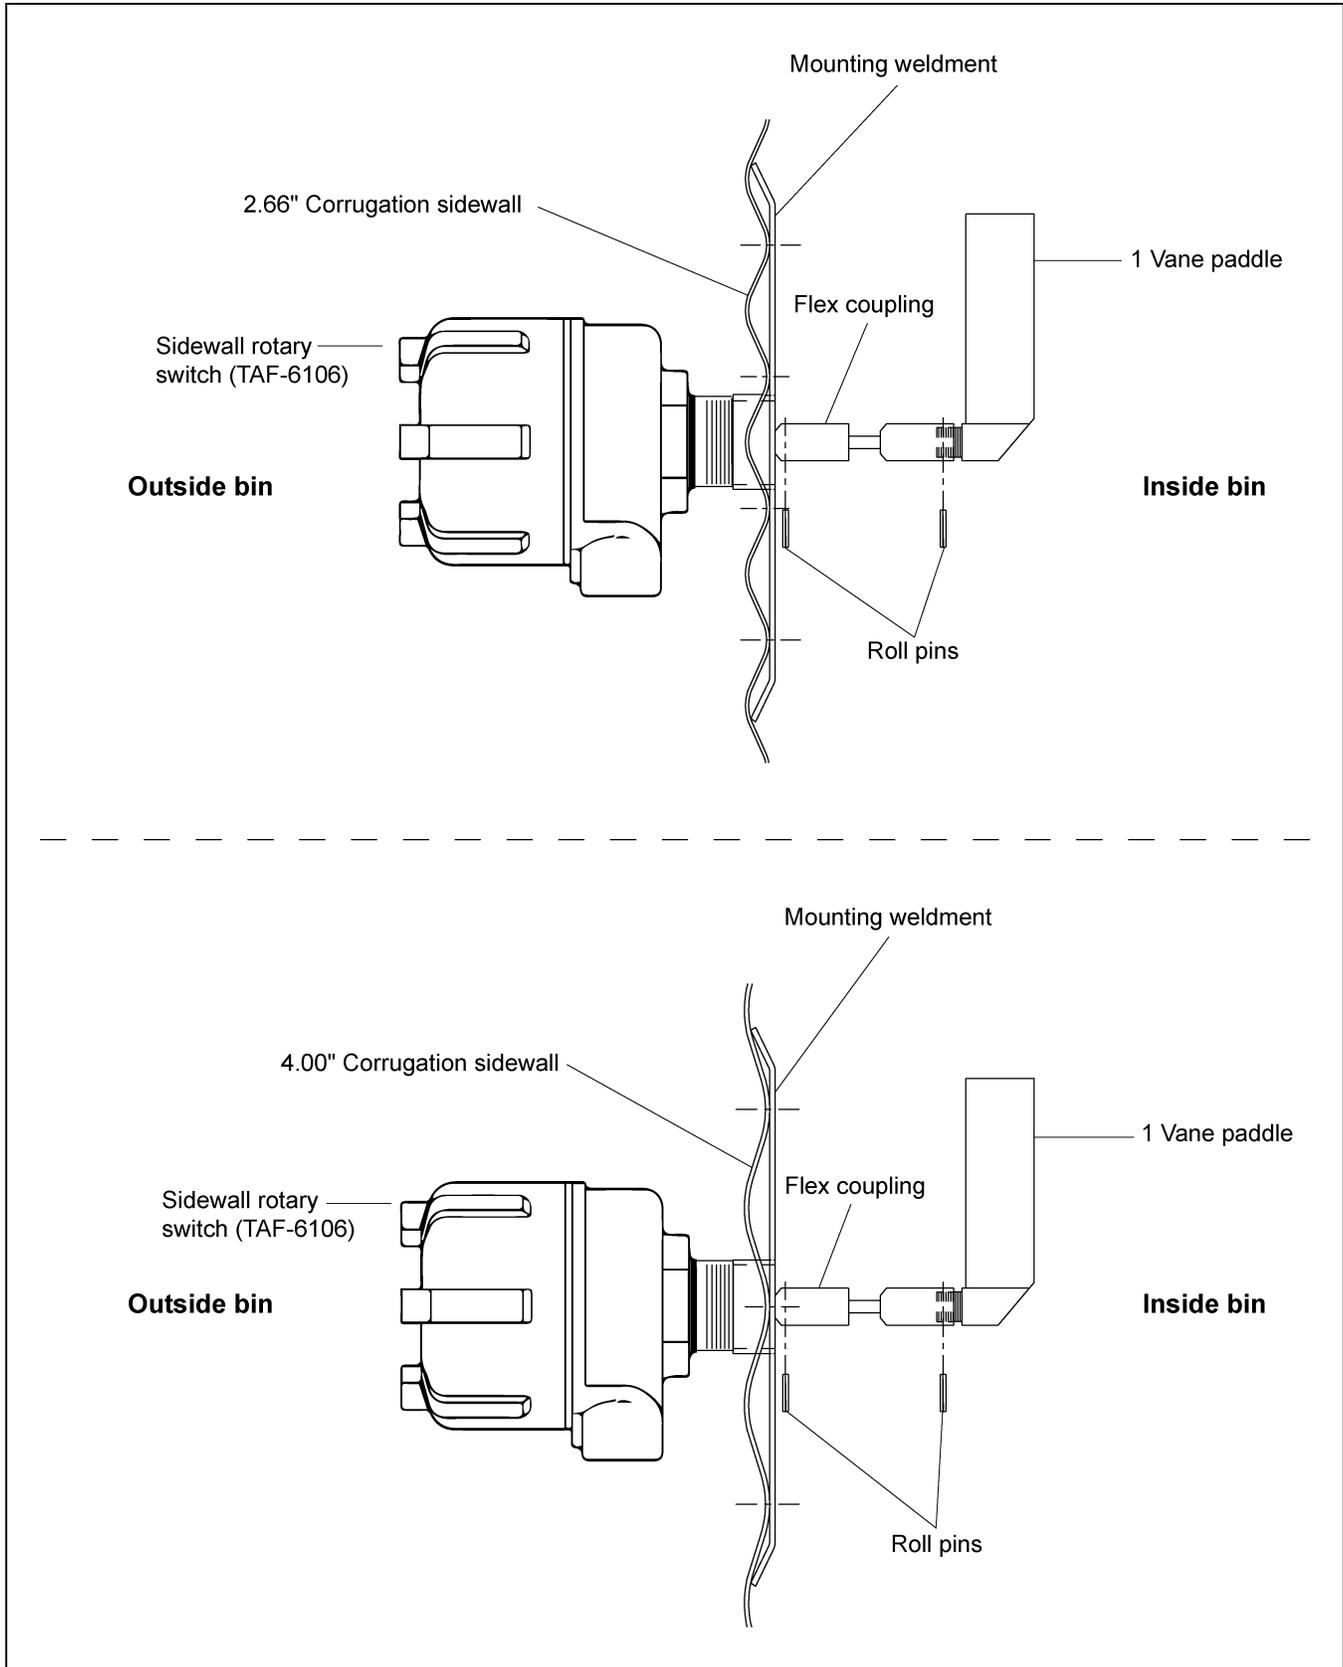

Figure 3P
4. Use the mounting plate as a pattern and drill four (4) 3/8" holes through the sidewall at the switch location so the plate can be bolted to the bin.
9. Attach the 1 vane paddle to the flex coupling as shown in Figure 3P on Page 25.